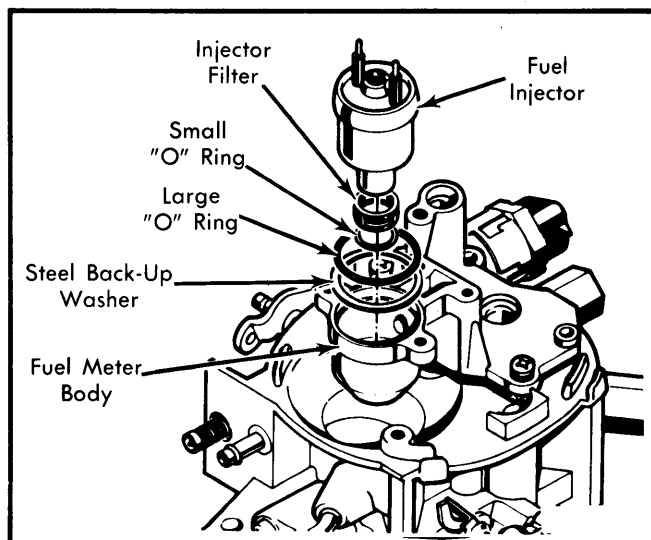

Fig. 7 Installing Fuel Injector
2) Lubricate "O" rings with lithium grease (or equivalent). Push small "O" ring on nozzle end of injector until seated against injector fuel filter. Install steel back-up washer in recess in injector cavity of fuel meter body. Install large "O" ring directly above back-up washer. Press "O" ring down in cavity recess until flush with top of fuel meter body casting surface. See Fig. 7.